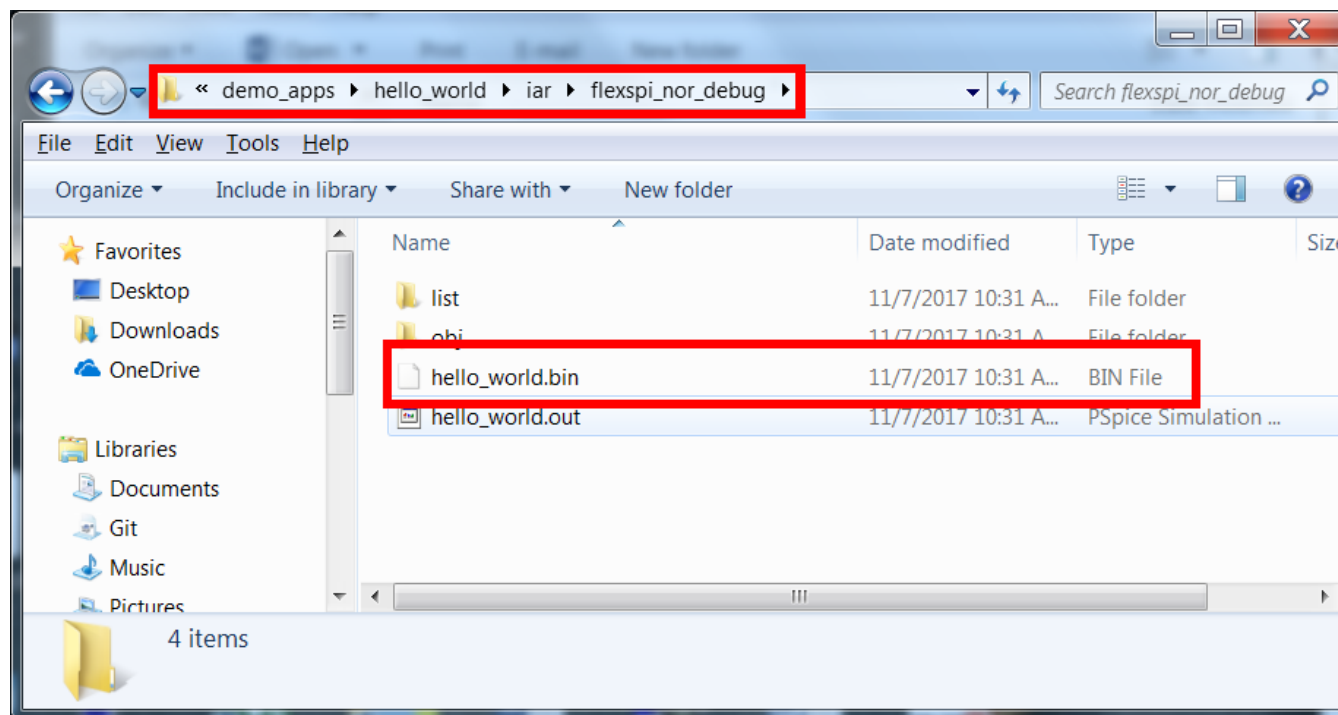

Figure 5. hello_world.bin location
- Build the project and generate the image. You can find the hello_world.bin at following location (Figure 5):